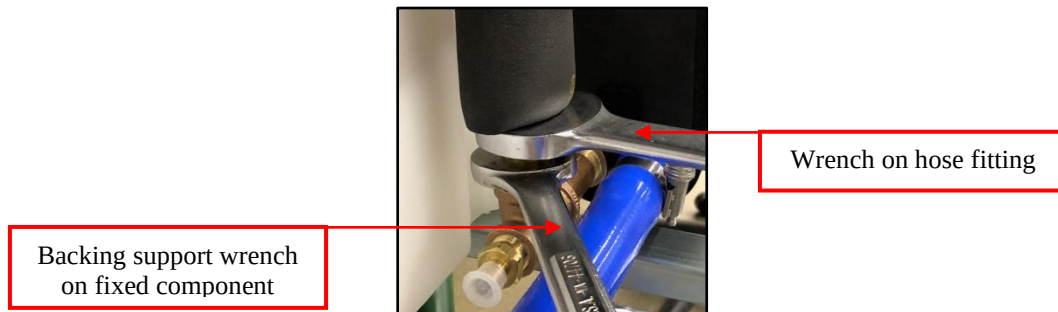
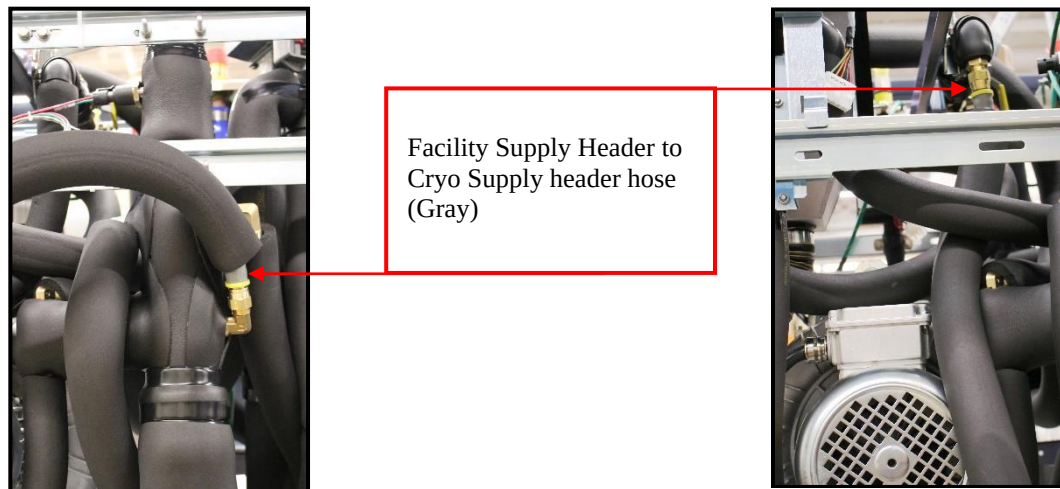
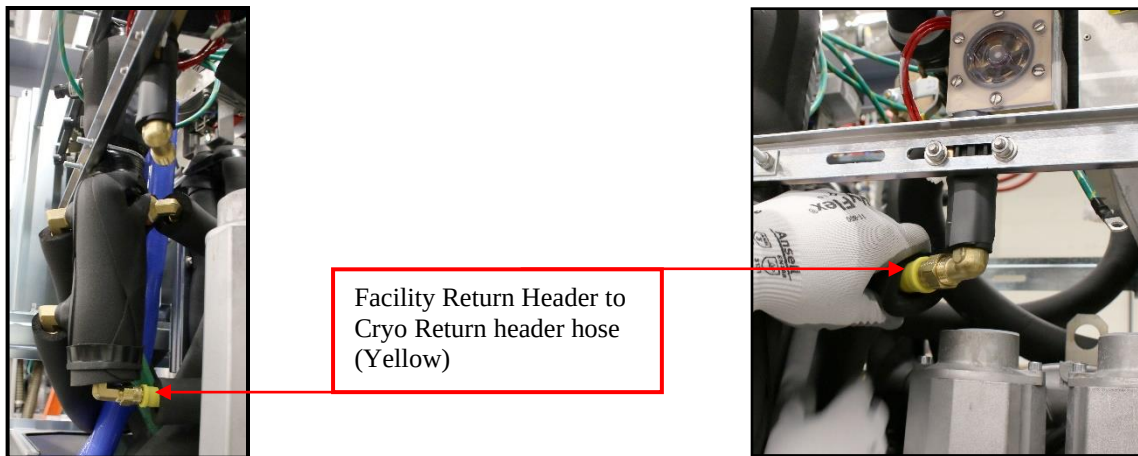
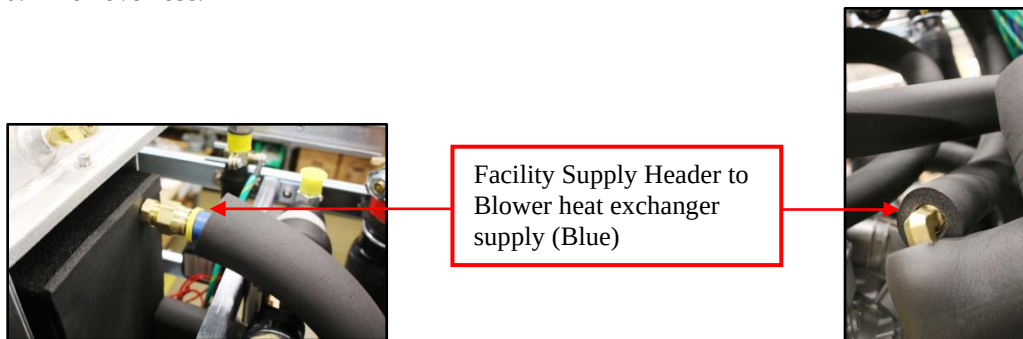

Figure 3 Wrench placement
Figure 7 Facility Supply Header to Cryo Supply header detail
Figure 8 Facility Return Header to Cryo Return Header
Figure 9 Facility Supply Header to Blower Heat Exchanger Supply
For all removal and tightening use supporting wrench to hold fitting (see Figure 3)
- b. Using the adjustable wrench as a backing support (figure 3), loosen the connector attached to the pump discharge port (GC or PE) with the 1/1/2" wrench. Refer to Figure 4 for discharge port hose identification.
- Using the 1 1/4" wrench and 1 1/16" wrench for support (Refer to Figure 3 above), loosen the fitting attached to the bottom heat exchanger port (GC or PE – blue hose).
- Using one 7/8" wrench for removal and another for support (Refer to Figure 3 above), remove hose from Facility Supply header.
- Using one 7/8" wrench for removal and another for support (Refer to Figure 3 above), remove hose from Cryo Supply header (Figure 7 below).
- Using a 7/8" wrench and an adjustable wrench for support (Refer to Figure 3 above), remove hose from Facility Supply header.
- Using a 7/8" wrench and an adjustable wrench for support (Refer to Figure 3 above), remove hose from Cryo Supply header (Figure 8 below).
- Using a 7/8" wrench and 3/4" wrench for support (Refer to Figure 3 above), remove hose Blower heat exchanger (Figure 9 below).
- c. Using a 7/8" wrench and an adjustable wrench for support (Refer to Figure 3), loosen and remove hose from Blower heat exchanger return. (Figure 16 below).